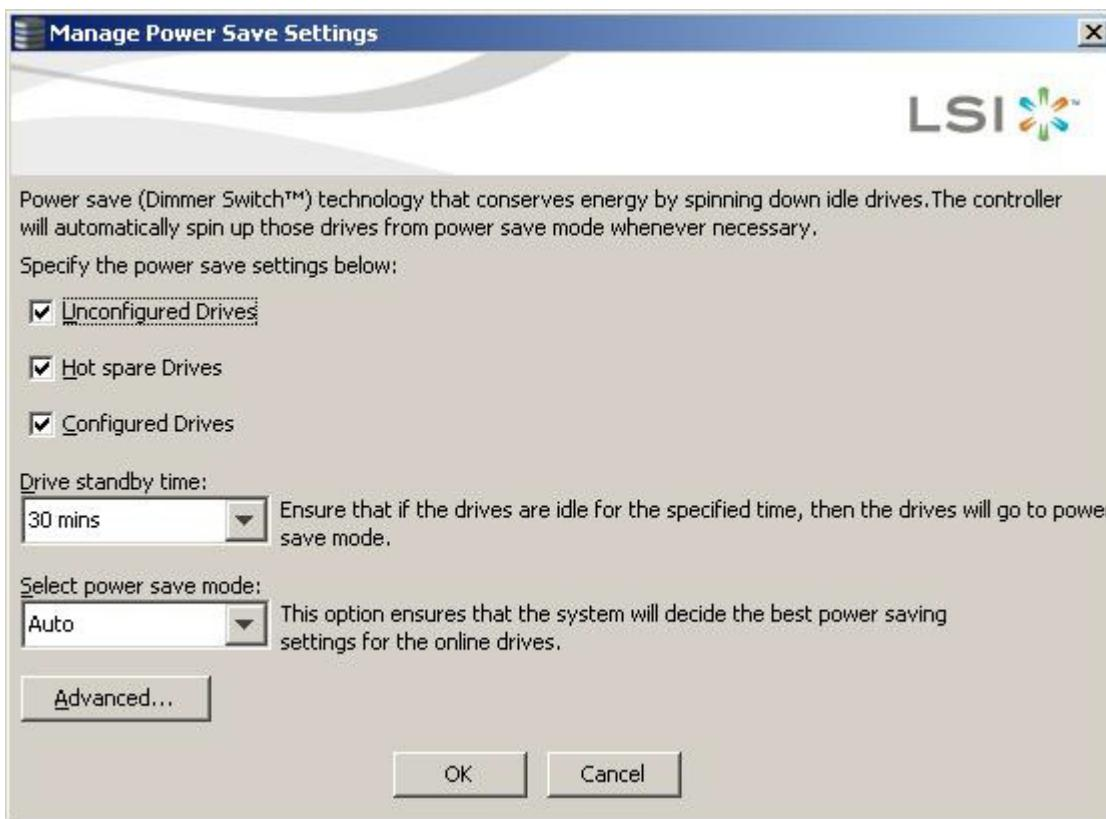

Figure 193 Manage Power Save Settings Window
1. Click the **Advanced** button in the **Manage Power Save Settings** window as shown in Figure 193 on page 308.